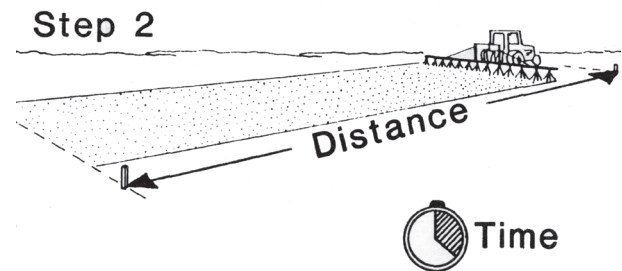

Figure 1. Measure the appropriate length for the nozzle spacing, then measure the time to run the course.
STEP 2. Drive and time the sprayer in seconds (Figure 1) at the throttle setting and load that normally occurs during spraying (spray tank should be 1/2 to 2/3 full) over the marked area. Engage the incorporation equipment (disk, planter, etc.) or other devices used while spraying. Do not change the gear or throttle setting after you have chosen a spraying speed. A change in ground speed will change the sprayer application rate and this will require recalibration.